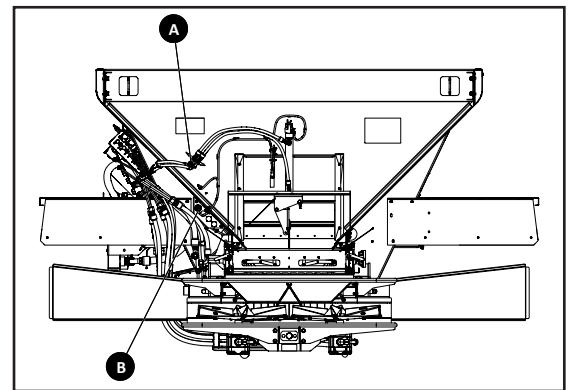

Figure 1A
2. Figure 1A - Disconnect feedgate hydraulic hoses (A) and electrical harness (B).